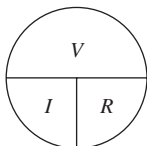

Figure 2 Ohm's law circle.
The current (I) in a complete circuit is proportional to the applied voltage (V) and inversely proportional to the resistance (R) of the circuit (see Figure 2).